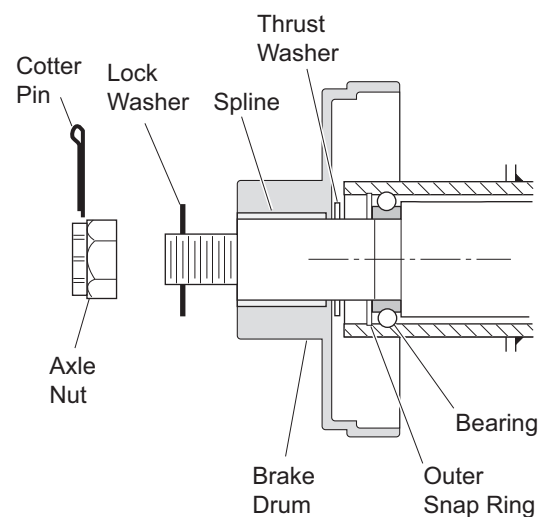

Fig. 7 Cut Away of Outer Bearing and Brake Drum
5. Install the brake hub and drum, thrust washer and nut (Ref. Fig. 7).